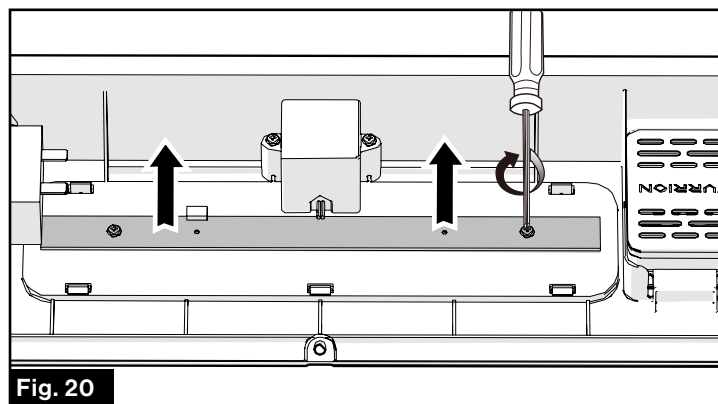

Fig. 20
3. Remove the clip and two screws to replace the old LED with a new LED. Fix the clip and tighten the screws. Then reinstall the cover. (Fig. 20)